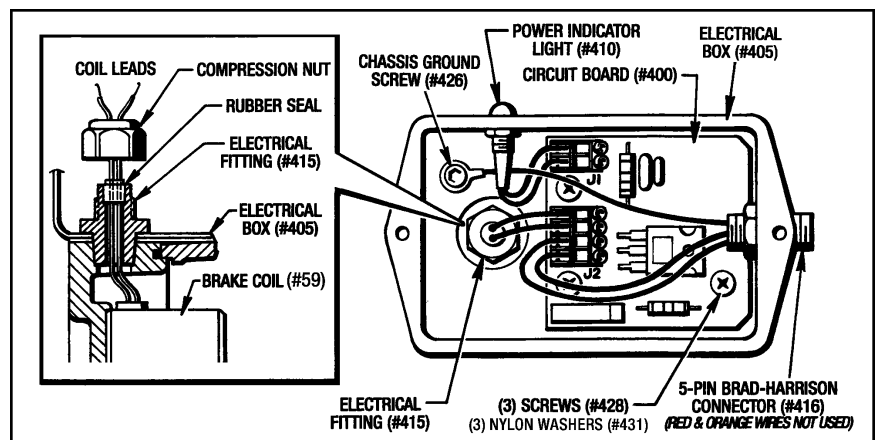

Figure 7.5 - Conduit Box with Cover Removed for Sizes MSB9 and MSB10
(See Figure 7.5)
6. Take the cover off of the Conduit Box (#405) and disconnect the coil leads from J1 terminal strip located on the Circuit Board (#400). Also remove the compression nut from the Electrical Fitting (#415) and pry the rubber seal out of the fitting and off of the coil leads. (See Figures 7.5 or 7.6)
Electrical Fitting (#415). Tighten down the compression nut. (See Figure 7.5 or 7.6)
- Attach the coil leads to Terminal Strip J1 on the Circuit Board (#400) and replace the Conduit Box cover. (See Figure 7.5 or 7.6).